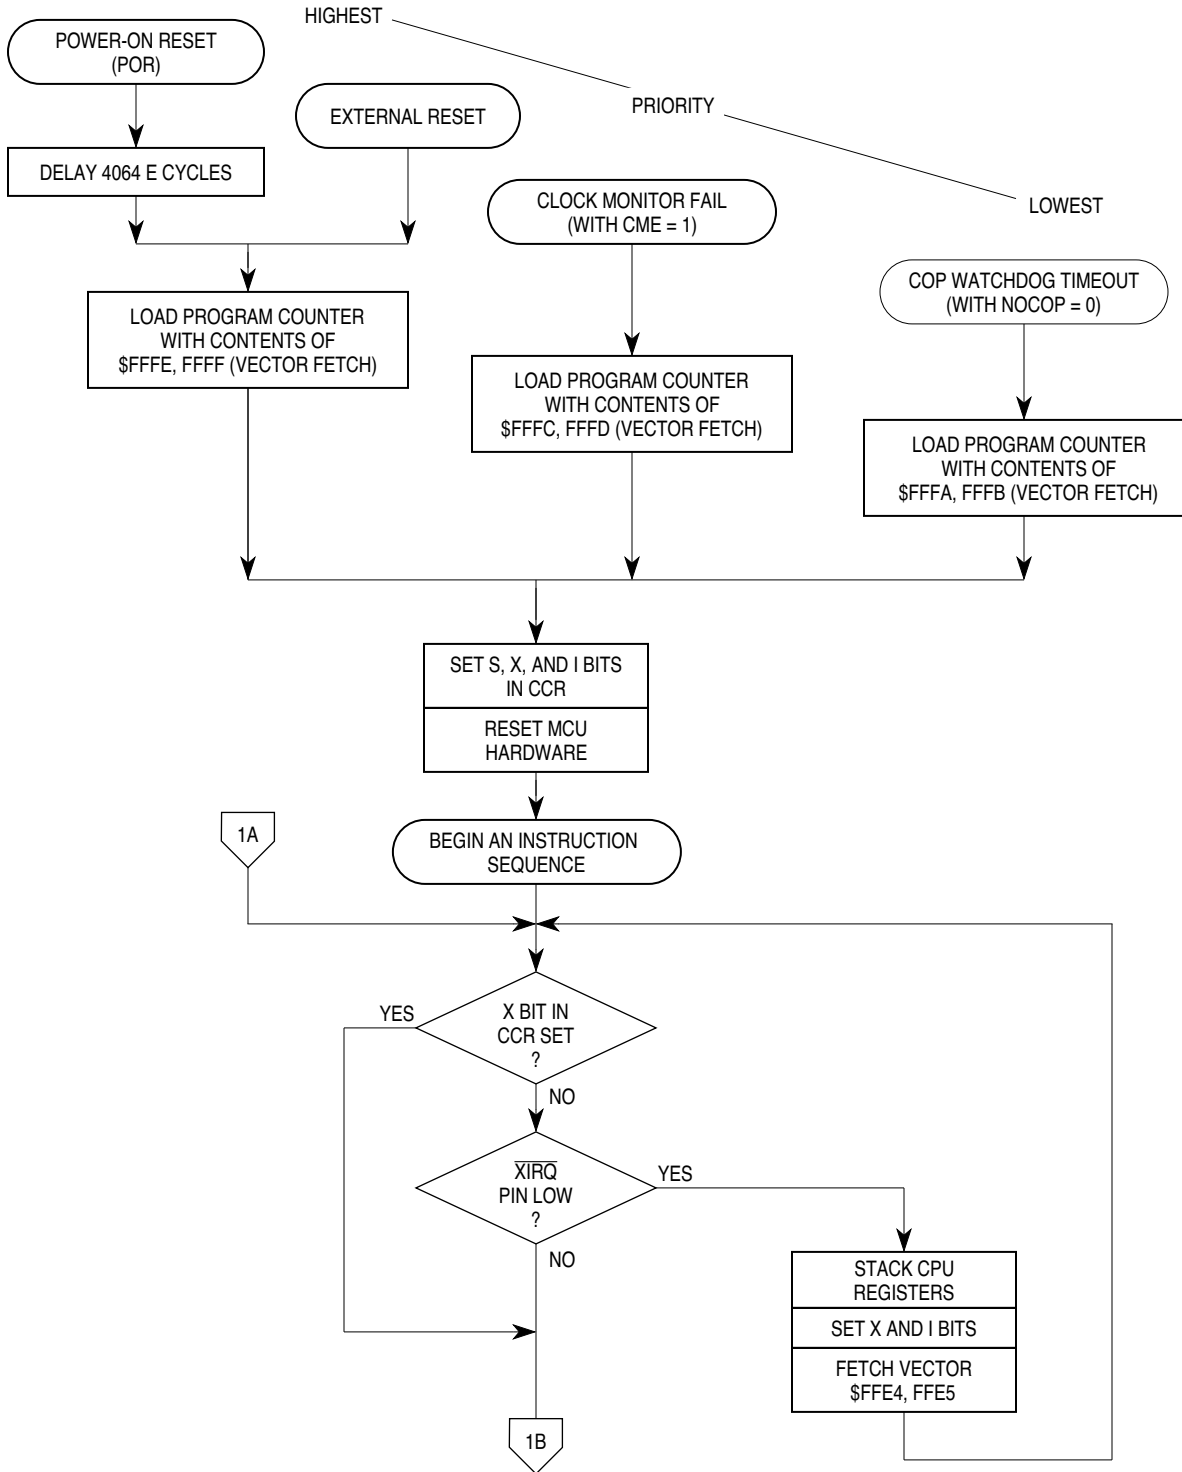
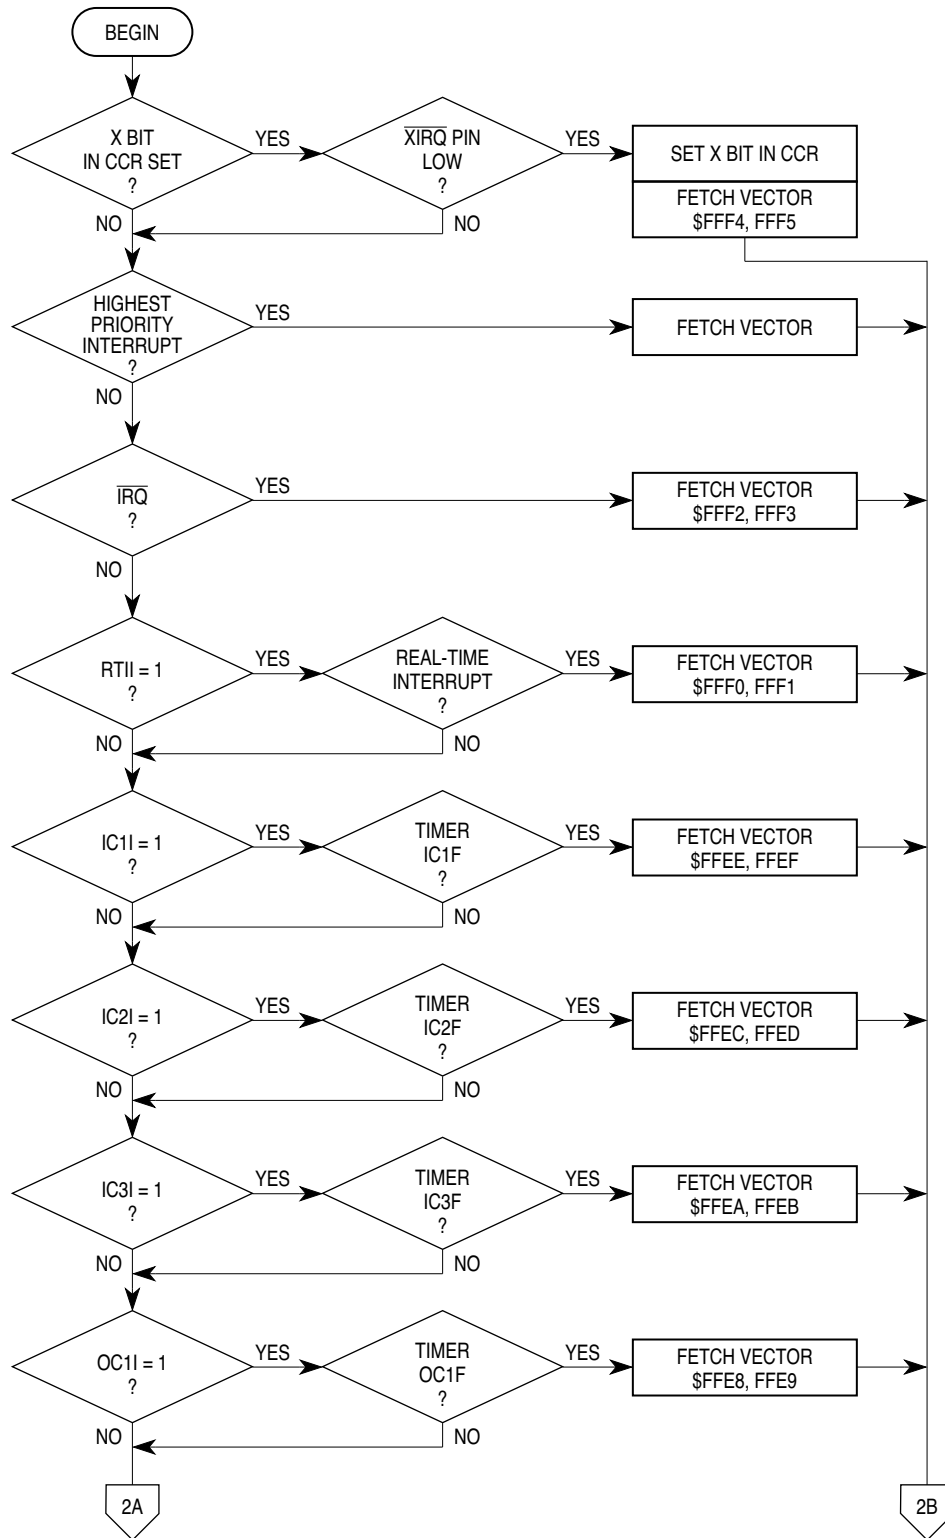
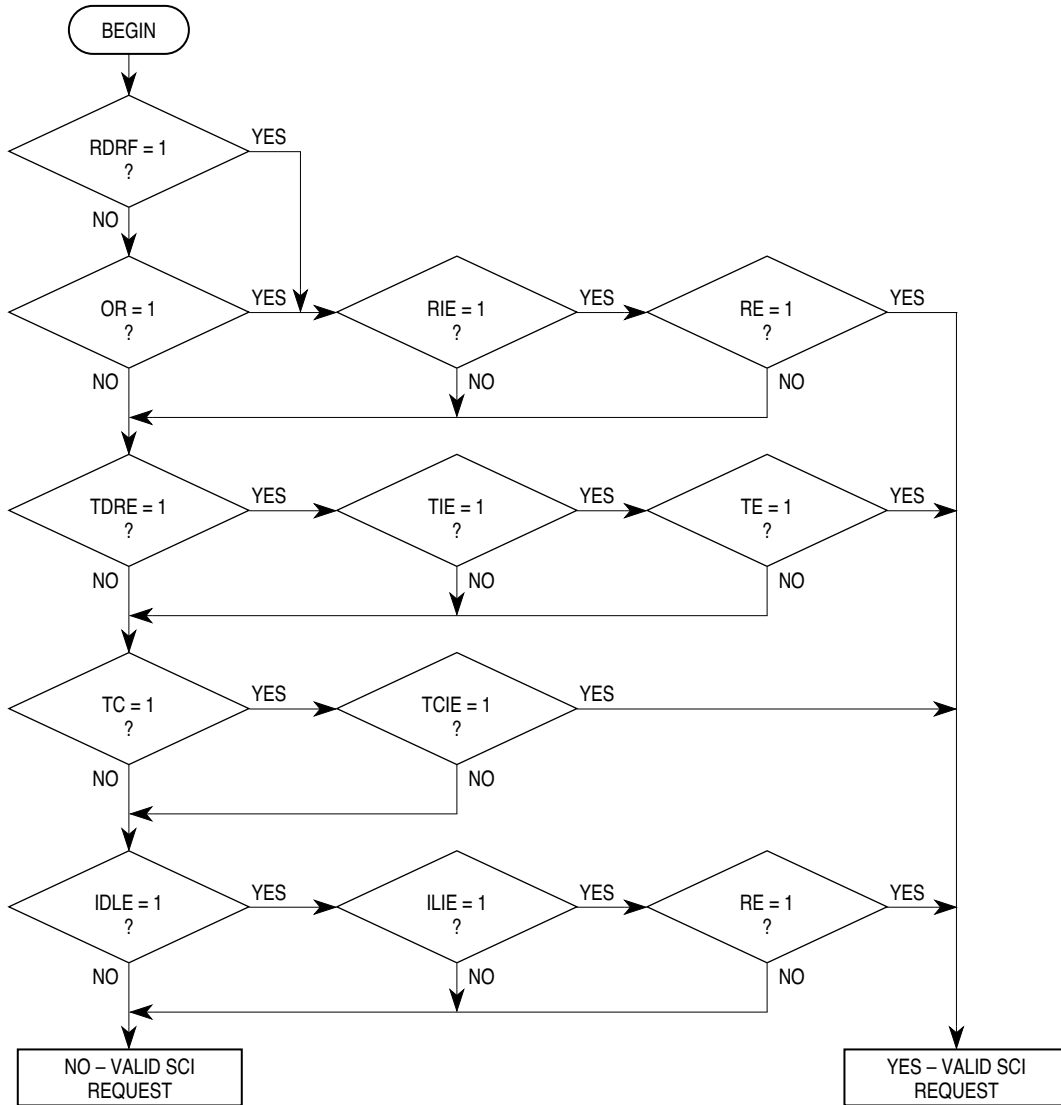

Figure 5-1 Processing Flow Out of Reset (1 of 2)
Figure 5-3 Interrupt Priority Resolution (1 of 2)
Figure 5-5 Interrupt Source Resolution Within SCI
**Figure 5-1** and **Figure 5-3** illustrate the reset and interrupt process. **Figure 5-1** illustrates how the CPU begins from a reset and how interrupt detection relates to normal opcode fetches. **Figure 5-3** is an expansion of a block in **Figure 5-1** and illustrates interrupt priorities. **Figure 5-5** shows the resolution of interrupt sources within the SCI subsystem.